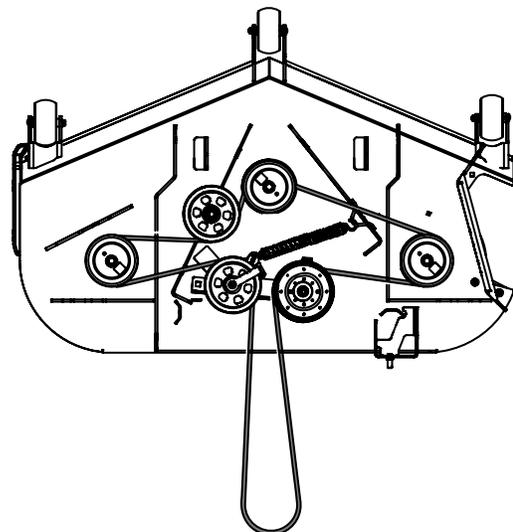

Figure 49
8. Route the belt as shown in Figure 49. Tighten and secure the idler arm hardware.